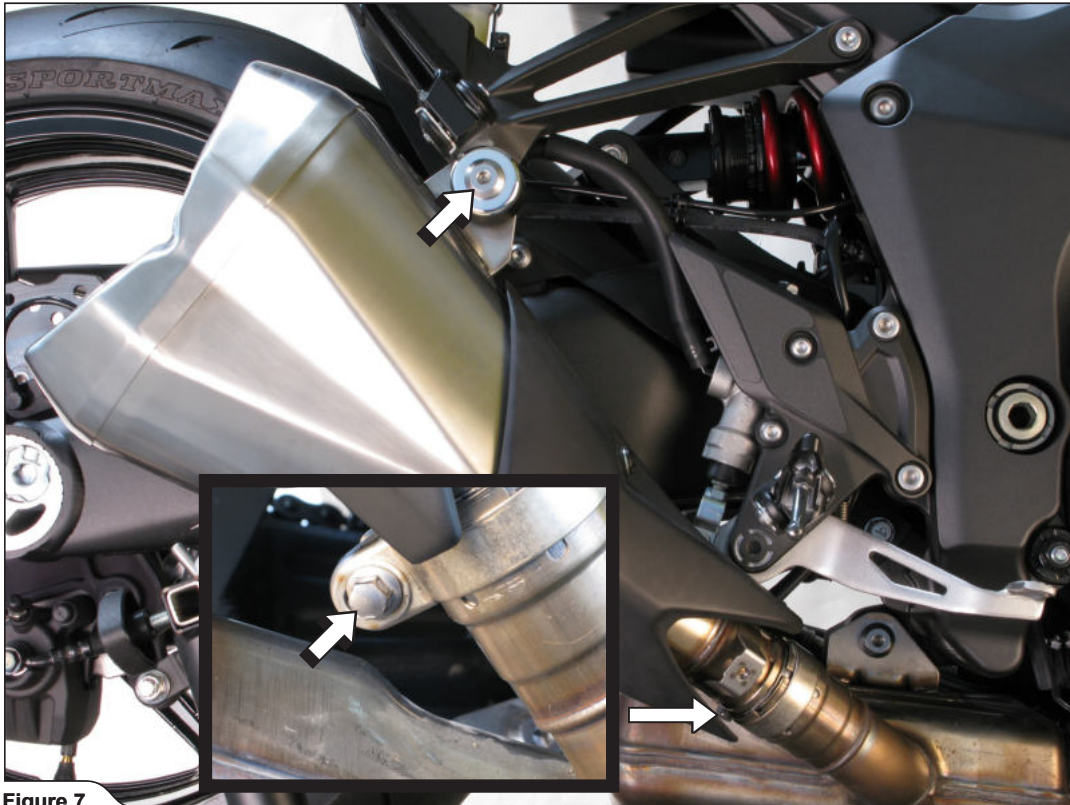

Figure 7
6. Loosen the clamps and unscrew the mufflers' bracket bolts on both sides of the motorcycle. Carefully remove the mufflers off the motorcycle (**Figure 7**).